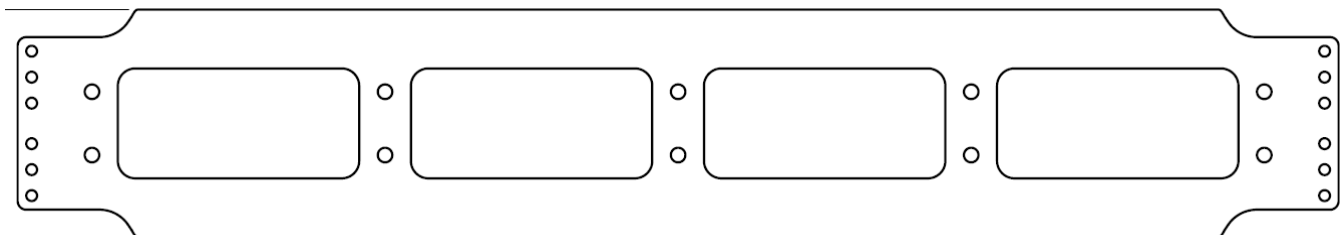
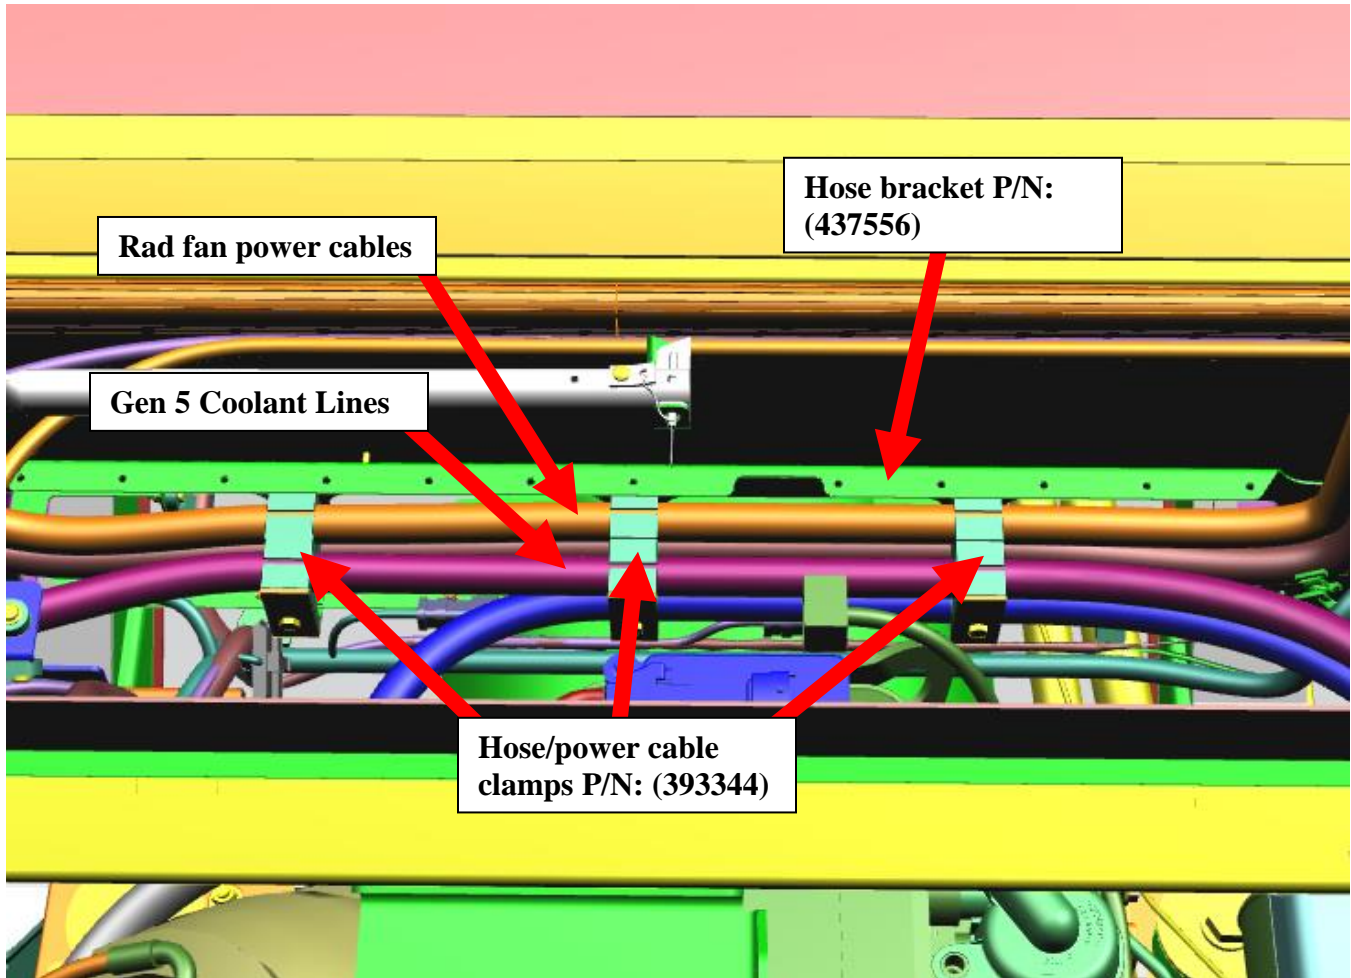

Figure 7: Hose bracket P/N: (437556)
Figure 8: Coolant lines, rad fan power cables and hose bracket
4. Remove hose/power cable clamps P/N: (393344) x3, and move coolant lines/rad fan power cables away from the hose bracket P/N: (437556) as seen in figure 8. See figure 7 for hose bracket appearance reference.